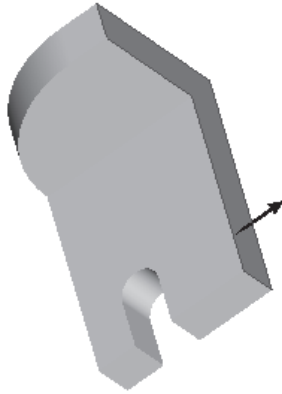

Figure 5-81 Arrow showing the direction of viewing the model
- d. Create the third and fourth features on the same plane, but with different extrusion depths, refer to Figures 5-81 through 5-88.
3. Use the middle mouse button to spin the model and then select the face of the base feature shown in Figure 5-81 as the sketching plane. A yellow arrow is displayed on the selected face.
4. Choose the **Flip** button to flip the yellow arrow, as shown in Figure 5-81. The arrow points in the direction of viewing the sketching plane.